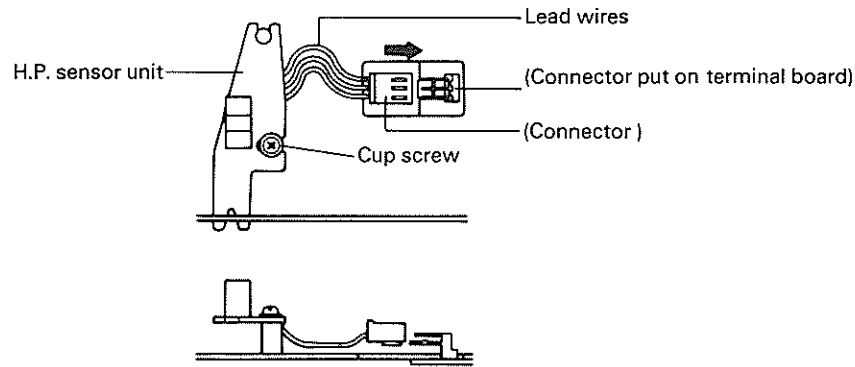

Fig. 4-19. Removal of Home Position Sensor Board
(1) Removal of Home Position Sensor Board (Fig. 4-19)
- Step 3: Loosen the cup screw on the H.P. sensor board. (See Fig. 4-19)